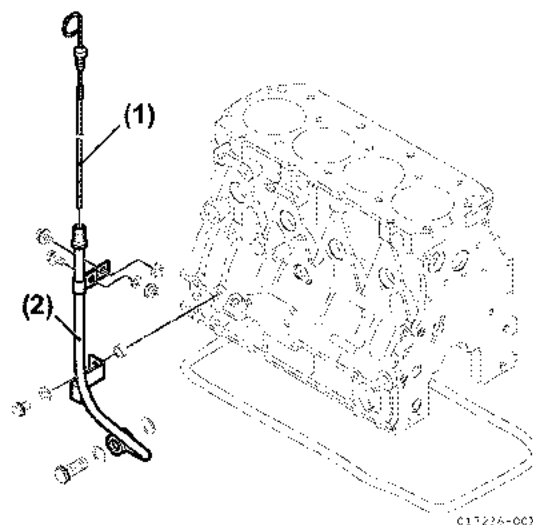

Figure 5-30
25. Remove the lubricating oil dipstick and guide (Figure 5-30).